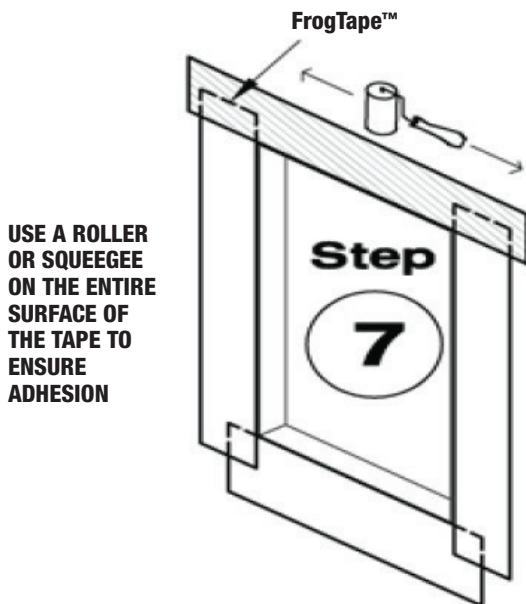

Figure 8 Apply head flashing.
Step 7. Precut FrogTape Pro Grade Flashing Tape for the window header to extend a minimum of 6 in beyond the jambs of the prepared rough opening. Peel off release liner and adhere over window fin (see Figure 8). Use a roller to apply sufficient pressure along the entire surface of the tape to ensure adhesion and a continuous seal, eliminating any wrinkles, creases or trapped air beneath the tape.